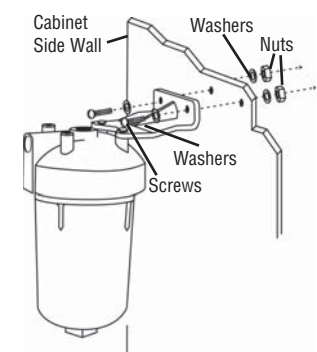

Figure 2
2. Remove drawer from cabinet (if needed) and drill two 7/32" diameter holes through cabinet wall. Fasten filter to wall with nuts and bolts supplied. Use washers on both sides of the wall. Mounting to the cabinet side wall gives the filter good, rigid support. (Figure 2)